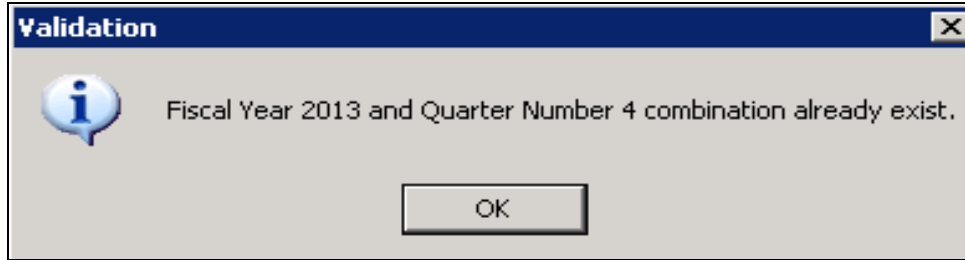

Figure 11-41: Validation message: Actual Completion Date must be entered
18. Any attempt to create a new report for a project in a Fiscal Year and Quarter that already exists as a submitted report will result in the message below when attempting to Save or submit the duplicate report. The message will be specific as to the FY and Quarter of the duplicate data (Figure 11-41).